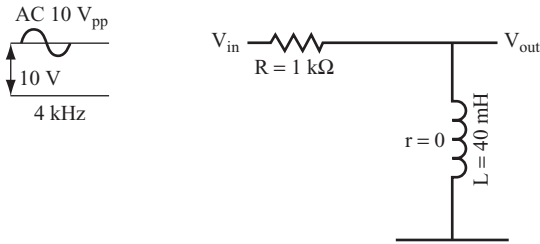

FIGURE 6.61
9. Use the circuit shown in Figure 6.61.